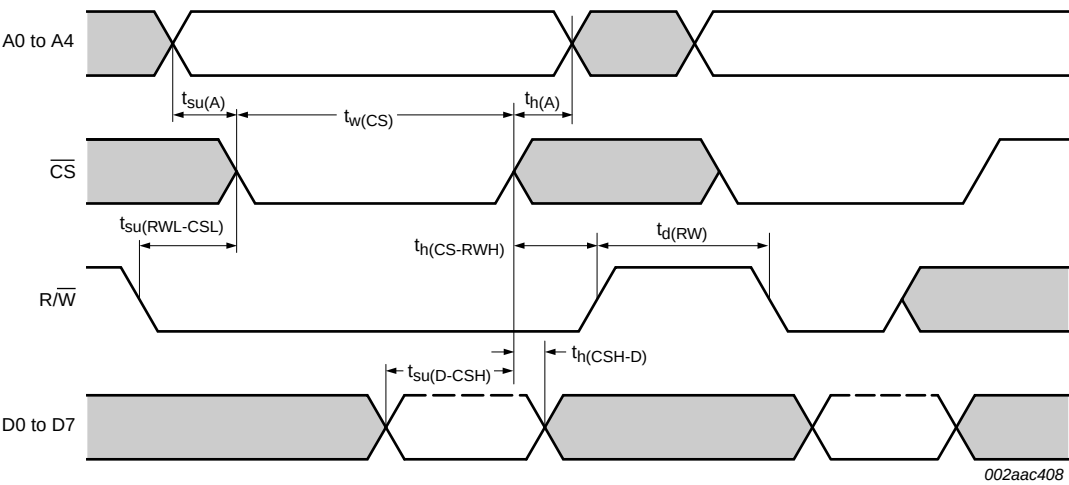
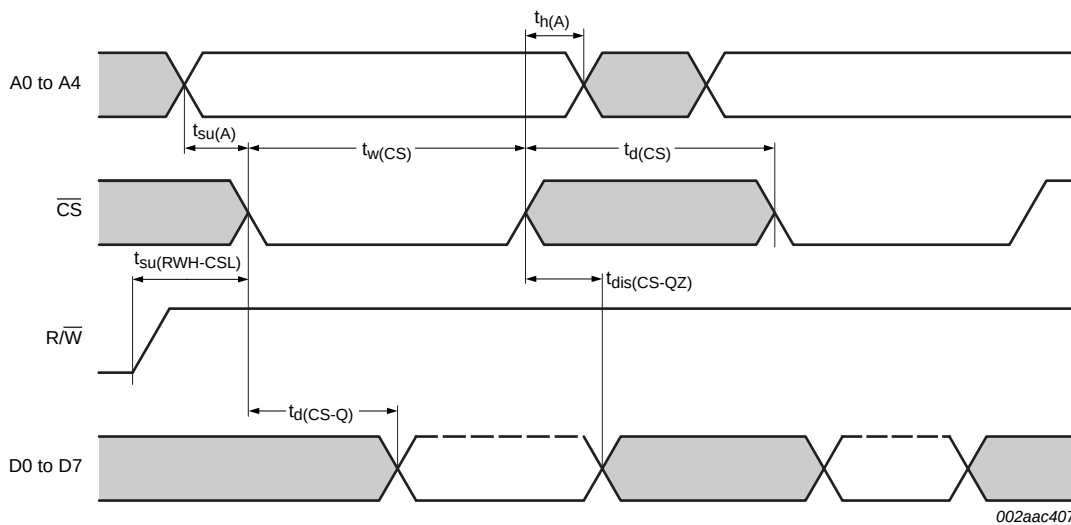

Fig 11. General write timing (68 mode)
Fig 13. General read timing (68 mode)
(1) $\overline{CS}$ timing during a write cycle. See Figure 11.(2) $\overline{CS}$ timing during a read cycle. See Figure 13.